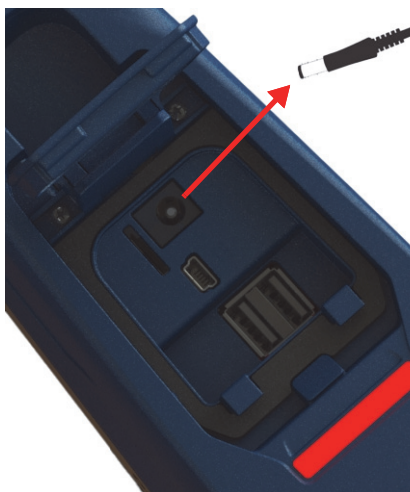

Figure 3-14 Unplugging the DC power plug
4. If you are using the AC power adaptor, disconnect the DC power plug from the Vanta AC adaptor socket (see Figure 3-14 on page 72).